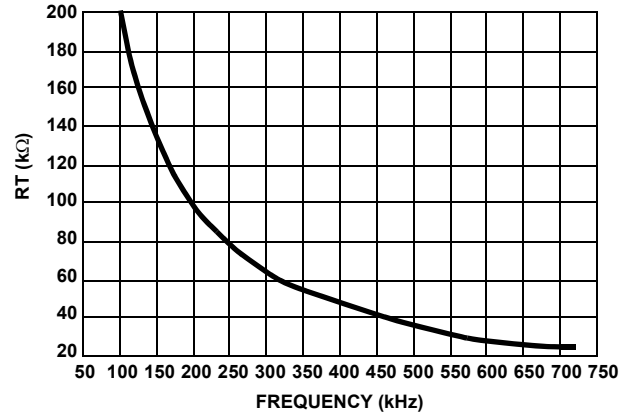

FIGURE 3. RT vs FREQUENCY
**RT** - Connect an external resistor from this pin to ground for frequency selection. Refer to Figure 3 (RT vs Frequency).
The ISL6406 offers adjustable frequency from 100kHz to 700kHz by changing external resistor connected at pin RT. Figure 3 shows the typical RT vs Frequency variation curve.